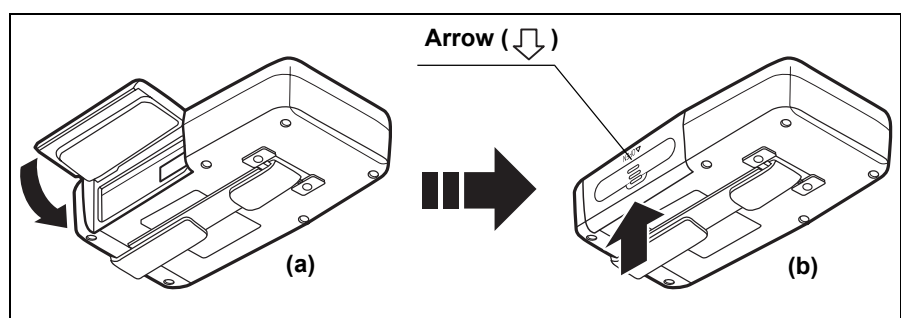

Figure 5.25
3. Close the battery pack slot cover, taking care not to catch the battery pack removal ribbon, and then slide the cover upward to lock it (see Figure 5.25 (b)).